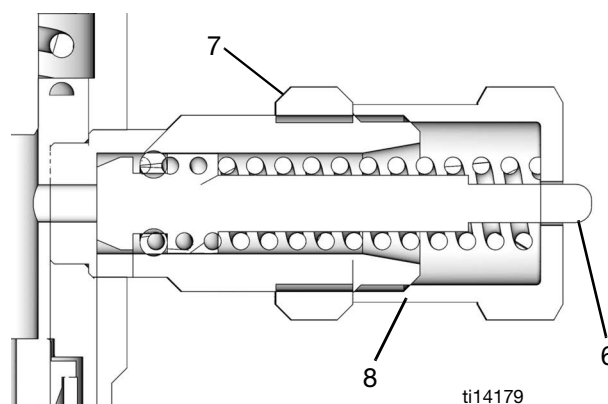

FIG. 1
Reference numbers used in the following instructions refer to FIG. 1.
To prevent component failure, the adjustment nut (8) must not be extended beyond the fully retracted position of the piston (6). See FIG. 1.